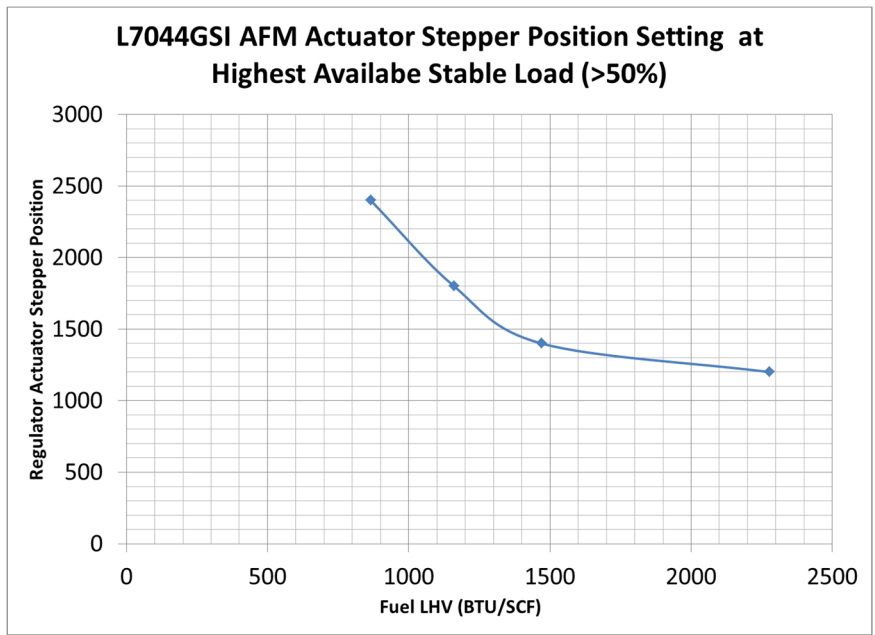

Figure 8
10. At the highest available load (minimum 50% of rated), adjust carburetor screws until Regulator Actuator Stepper Position reaches the correct position for the fuel heating value based on Figure 8. Adjust carburetor screws to achieve this.